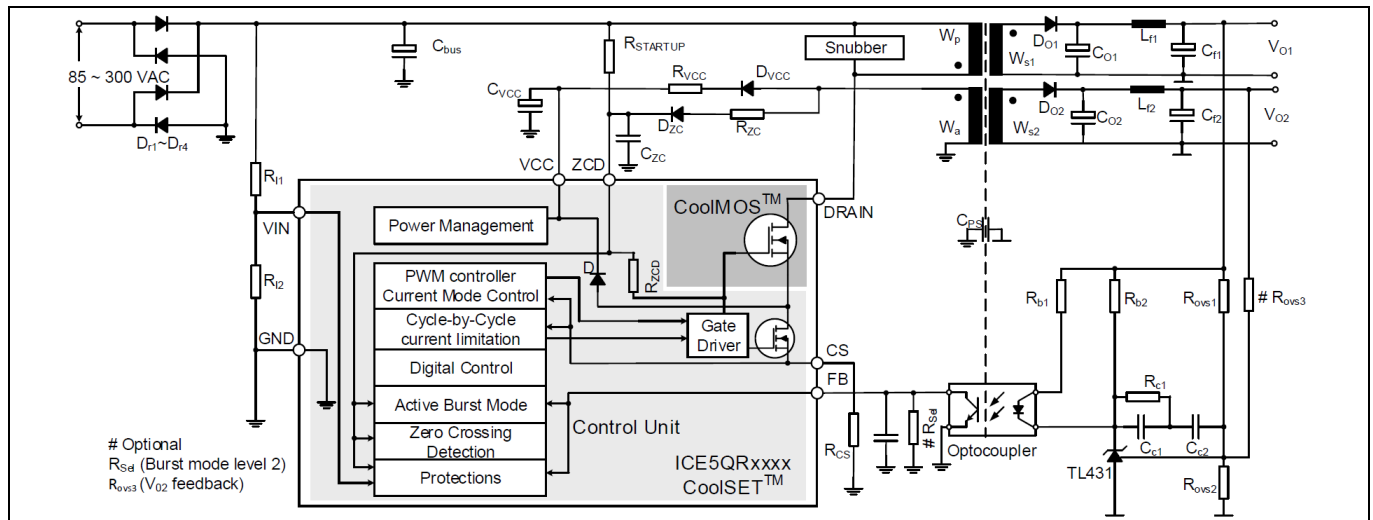
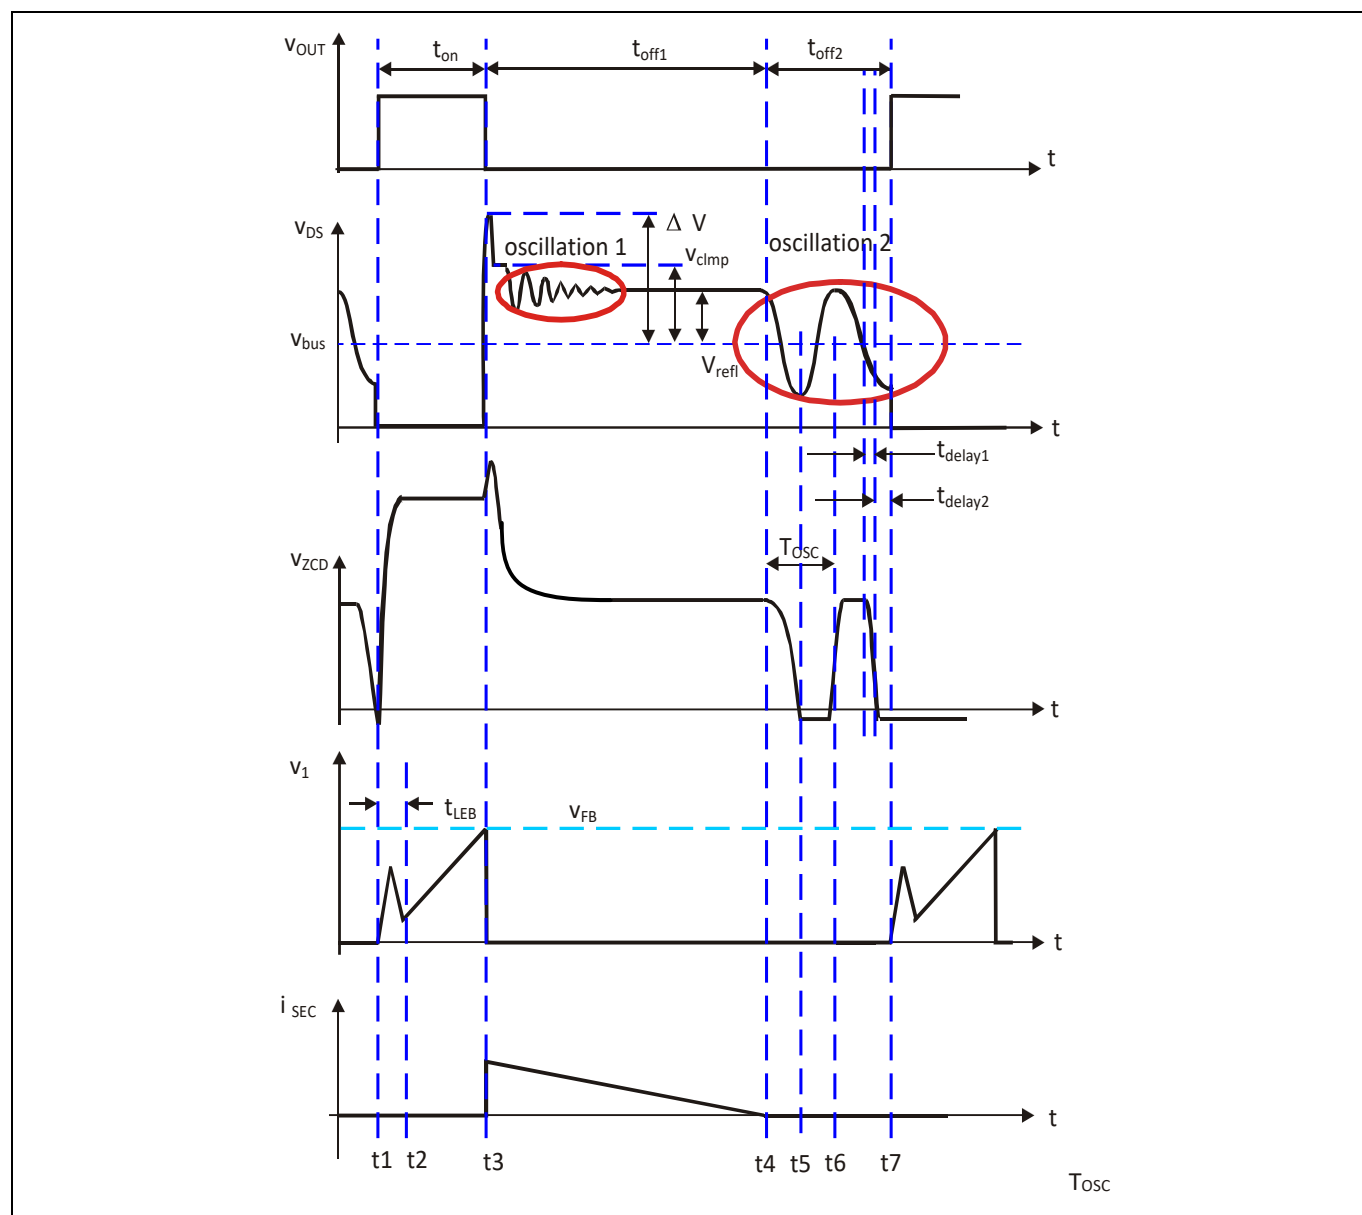

Figure 2 Typical application of CoolSET™
Figure 3 Typical waveforms of the CoolSET™ 5th Generation QR Plus flyback converter
The V_{IN} pin is connected to the bus via a resistor divider (see Figure 2) to sense the line voltage. This pin combines the functions of input line OVP, brownout, and minimum Zero Crossing (ZC) count setting for low-line and high-line.
2.2.3 Current sense (CS)
Figure 2 shows a typical application of the ICE5QRxx80BG-1 controller in a QR flyback converter. In this converter, the mains input voltage is rectified by the diode bridge and then smoothed by the capacitor (C_{bus}), where the bus voltage V_{bus} is available. The transformer has one primary winding (W_p), one or more secondary windings (W_{s1} and W_{s2}), and one auxiliary winding (W_a). Figure 3 shows the typical waveforms for the flyback converter when QR control is used. The voltage from the auxiliary winding provides information about the demagnetization of the power transformer and the output voltage.
As shown in Figure 3, after the power switch is turned on, the voltage across the shunt resistor (R_{CS}) shows a spike caused by the discharging of the drain-source capacitor. After the spike, the voltage V_{CS} shows information about the real current through the main inductance of the transformer (L_p). Once the measured current signal V_{CS} exceeds the maximum value determined by the FB voltage (V_{FB}), the power switch is turned off. During this on-time, a negative voltage proportional to the input bus voltage is generated across the auxiliary winding.
After the secondary-side current falls to zero, the drain-source voltage of the power switch shows another oscillation (oscillation 2 in Figure 3; this is also mentioned as the main oscillation in this document). This oscillation happens in the circuit consisting of the equivalent main inductance of the transformer (L_p) and the capacitor across the drain-source (or drain-GND) terminal (C_{DS}), which includes $C_{o(er)}$ of the MOSFET. The frequency of this oscillation is calculated as:
f_{OSC2} : Oscillation 2 in Figure 3
When the AC-line input voltage is applied as shown in Figure 2, a rectified voltage appears across the capacitor (C_{bus}). The pull-up resistor (R_{START-UP}) provides a current to charge the input capacitance (C_{iss}) of the power switch and gradually generate one voltage level. If the voltage over C_{iss} is high enough, the power switch will turn on and the V_{CC} capacitor will be charged through the primary inductance of the transformer (L_P), the power switch and the internal diode with two steps of constant current source (I_{VCC_Charge1}¹ and I_{VCC_Charge3}¹).